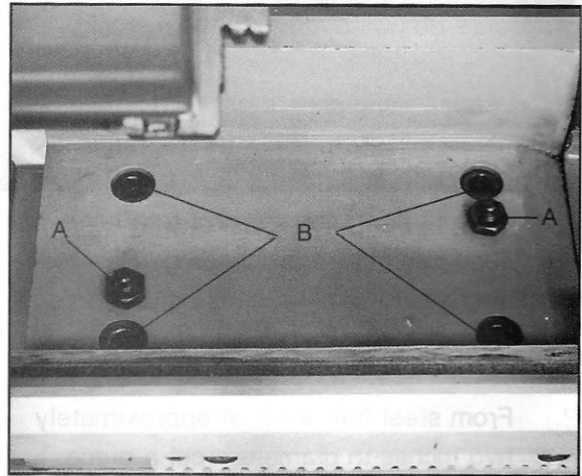

Fig.20
- Locate two nuts (A, Fig. 20) in the center of the gap section.
- Remove the four hex socket cap screws (B, Fig. 20) with a hex key wrench.